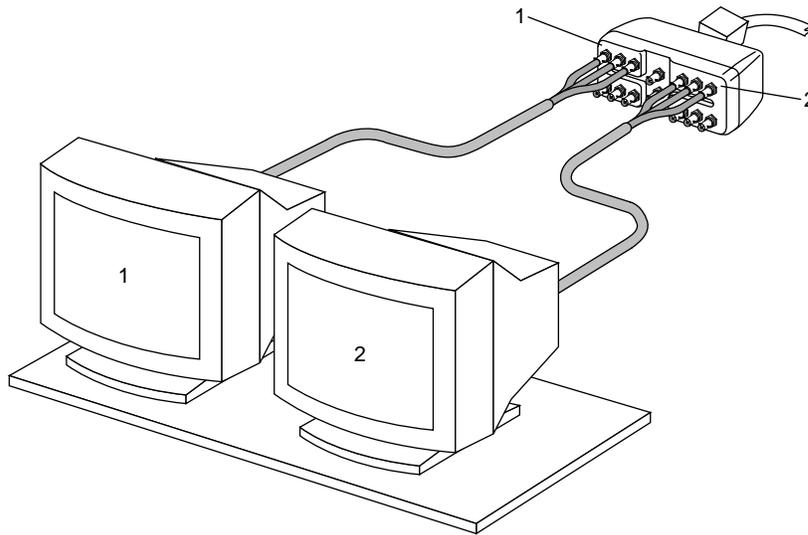

Figure 2-9 Arranging Two Monitors in a Side-by-Side Configuration
1. Arrange the monitors in the order you choose. A sample arrangement is shown in Figure 2-9.
2. Connect the monitors to the breakout box. The monitor attached to breakout box Section 1 is considered Monitor 1, etc. See Figure 2-9.